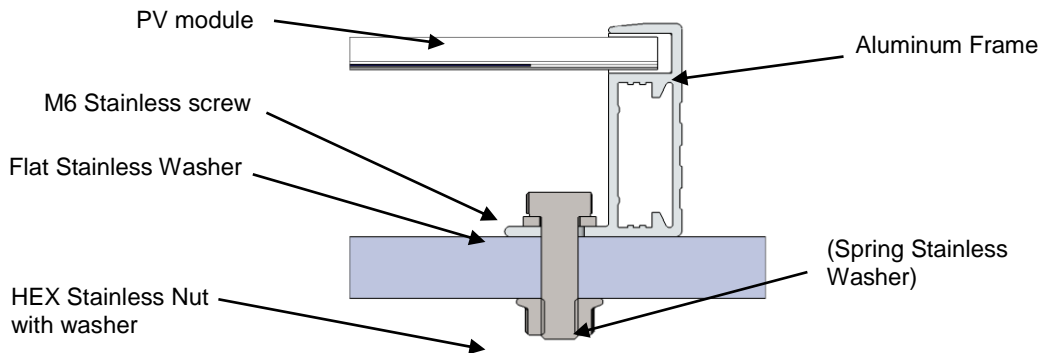
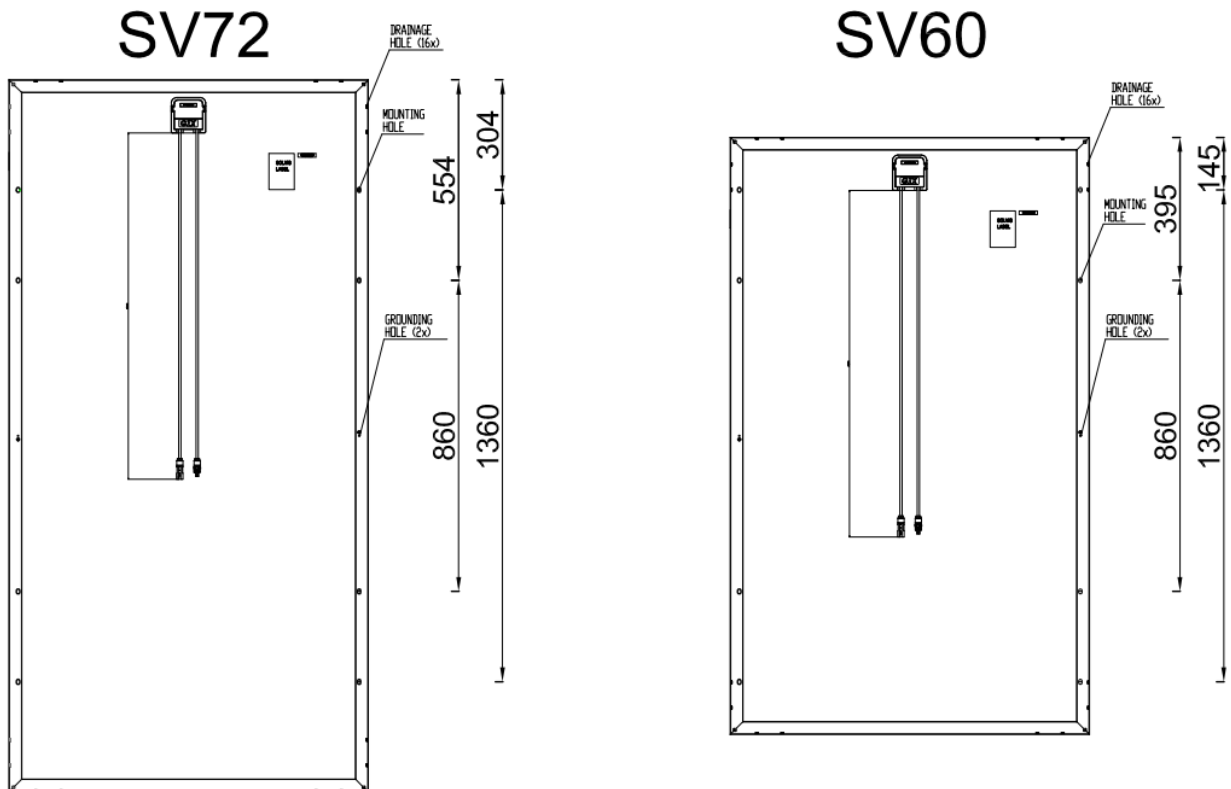

Figure 1. Screw fitting (for illustration only)
Figure 2. Positions of mounting holes, SV72 and SV60
Modules may be mounted at any angle from horizontal to vertical with exclusions mentioned in this manual. Select the appropriate orientation to maximize sunlight exposure. Specific information on module dimension and the location of mounting and grounding holes is provided below (Figure 2). We recommend that PV modules are mounted at a minimum tilt angle of 6° with respect to the horizon, in order to facilitate the self-cleaning of their front glass from dirt during ordinary raining.
- 1) **Frame Holes:** Secure the module to the structure using the factory mounting holes. Four M6 (1/4") stainless steel bolts, with nuts washers, and lock washers are recommended per module (Figure 1). Position of mounting holes for module types SV60 and SV72 can be seen on figure 2, for other type of modules, please check relevant datasheet.